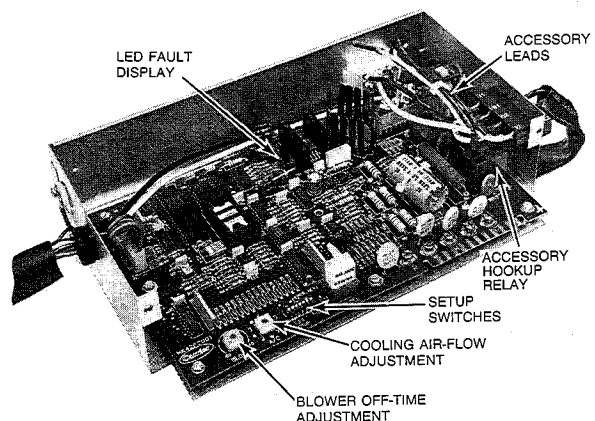

Fig. 11—Microprocessor Control Center
- Put setup switch No. 2 on microprocessor control board in ON position to provide continuous low-fire operation. See Fig. 11.
- d. Return setup switch No. 2 on microprocessor control board to OFF position and put setup switch No. 3 to ON position to provide continuous high-fire operation. See Fig. 11.
NOTE: Temperature rise can be determined for low-fire operation by placing setup switch No. 2 on microprocessor control board in the ON position. For high-fire operation return setup switch No. 2 to the OFF position and place setup switch No. 3 in the ON position. DO NOT forget to return setup switches to OFF position upon completion. See Fig. 11.
- d. Check to make sure bypass humidifier switch (marked BPH) on microprocessor control board is in ON position when a bypass humidifier has been installed. See Fig. 11.
An isolated set of normally open contacts (not connected to 24VAC or 120VAC) are available to operate any accessory such as an electronic air cleaner or humidifier. The relay contact will close whenever the blower motor is operating. These contacts are accessible by two 1/4-in. quick-connects mounted directly on the relay as shown in Fig. 11. Wire leads with quick-connects have been supplied as part of the control box wiring to simplify hookup per the three possible combinations shown in Fig. 12, 13, or 14.
4. Snip wire tie that surrounds accessory hookup leads shown in Fig. 11.
NOTE: If a bypass humidifier is used, bypass humidifier switch on the microprocessor control board must be put in ON position to increase the low-heat blower motor speed. This prevents nuisance limit trips caused by the increase in return-air temperature caused by the bypass from the humidifier. See Fig. 11 for location of BPH setup switch.
For proper furnace operation, follow the installation, startup, and adjustment instructions provided by the modulating damper system manufacturer. In addition, the multi-zone switch (labeled MZ on the microprocessor control board) must be put in the ON position so that the microprocessor can vary the blower speed to compensate for dampers that may have modulated closed during any given heating or cooling cycle. See Fig. 11 for location of multi-zone switch setup MZ.
This furnace has an LED display to aid the homeowner or service technician, while observing the furnace. See Fig. 11. The display can be seen through the view port provided in the blower door. To decipher the meaning of the display, refer to Fig. 15 or the fault code label on the inside of the control access door.